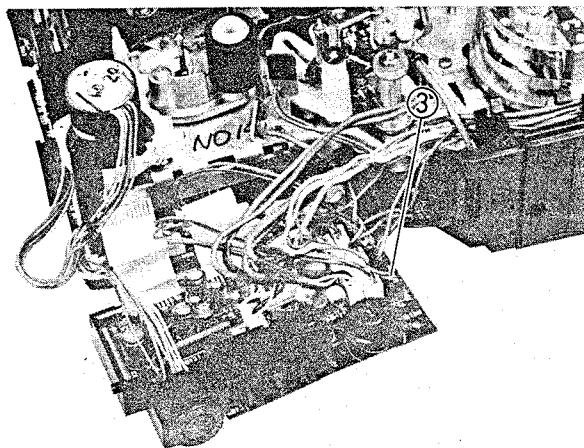

Fig. 2-71 Cassette Holder Switch Removal
Cassette Holder Switch Removal (Figs. 2-71, 2-72, 2-73)
3. Disconnect connector CN121. (See Fig. 2-71)